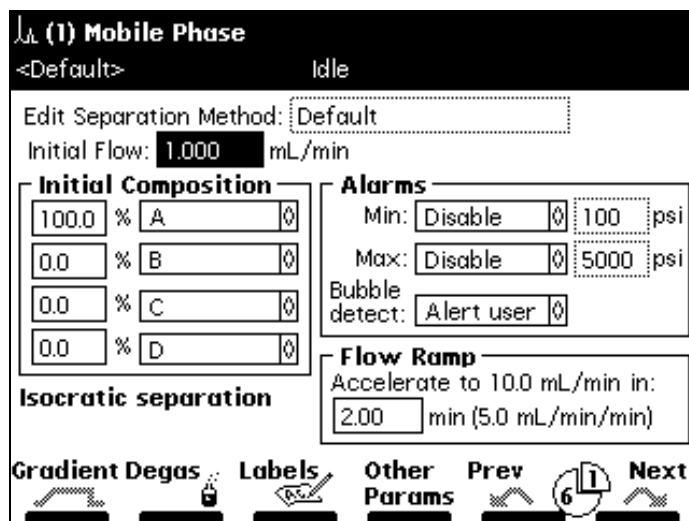

Figure 5-4 Mobile Phase Screen
- Press **Enter**. The Mobile Phase screen appears (Figure 5-4). The Mobile Phase screen is one of six parameter screens.
2. Press the **More** screen key until the View screen key is displayed, then press the **View** screen key. The first parameter screen (Mobile Phase screen, Figure 5-4) for the selected method appears.
The Mobile Phase screen (Figure 5-4) appears when you create a new separation method (see Section 5.1.1, Creating Separation Methods), view a locked separation method using the View screen key, or edit a separation method.
1. Press the **Next** or **Prev** screen key (if necessary) to display the Mobile Phase screen (Figure 5-4).